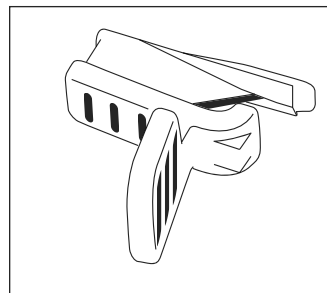

Figure 17
4. Replace blade. (See Figure 17)